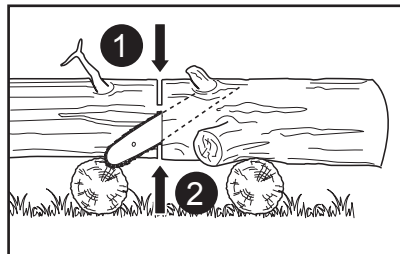

Fig. 31
3. When the log is supported on both ends (Fig. 31), cut 1/3 the diameter from the top (overbuck). Then make the finished cut by underbucking the lower 2/3 to meet the first cut.